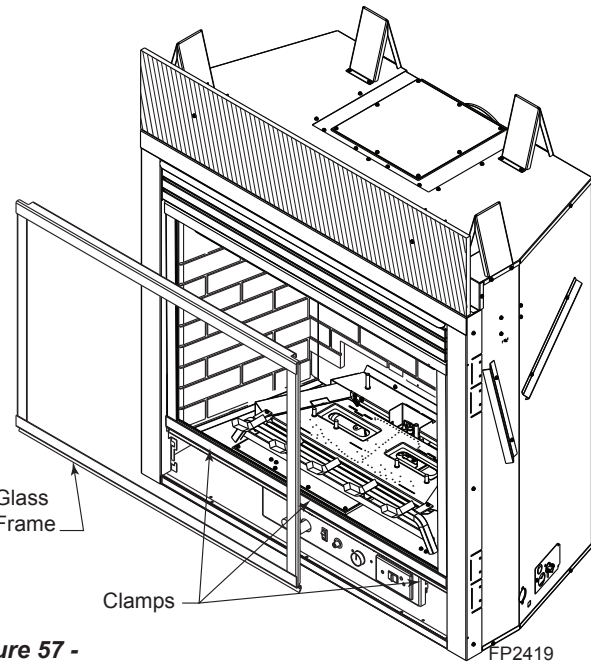

Figure 57 - Remove Glass Frame
1. The RF receiver button located on the Control Board must be in the on position before the learn function can begin. Use paper clip to depress button. One beep for RF receiver ON or two beeps for RF receiver OFF will be given as confirmation. Refer to Figure 57 for location.
2. Release three (3) clamps on bottom of fireplace. *Figure 57*